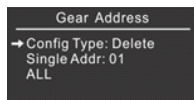

Figure 12
Switch the Config Type to “Delete” as shown in following Figure 12, short press up key △ or down key ▽ to select different operations.
--“Single Addr” is to modify a control gear address as shown in following Figure 12. Left side 02 is the address you would like to modify, right side 01 is the new address that you would like to modify to. When the cursor is moved to address number of the this operation item, short press plus key + or minus key — to select the address you would like to modify and then select the new address you would like to modify to, then short press confirm key ↵ to confirm the modification.